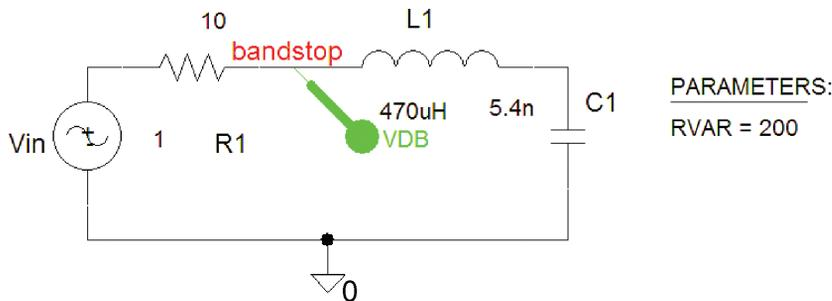

FIGURE 6.43: Series-tuned LCR circuit
- (3) For the LCR circuit in Fig. 6.43, with $V_1(t) = 5 \sin 2\pi ft$, $R_1 = 50$ Ω , $C_1 = 10$ uF, $L_1 = 100$ mH, determine the resonant frequency, loaded Q -factor, and maximum peak current. Use a **PARAM** part/**Parametric Sweep** to vary the capacitance to investigate the effect on the resonant frequency and the Q -factor ($Q = 1/r\sqrt{L/C}$).